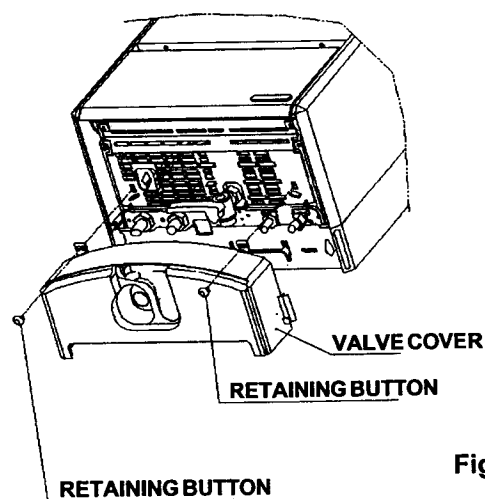

Fig. 23A
- 6.14.2** Clip valve cover (fig. 23A) into place and retain using the two retaining buttons by pushing them through the holes and turning through 90°.